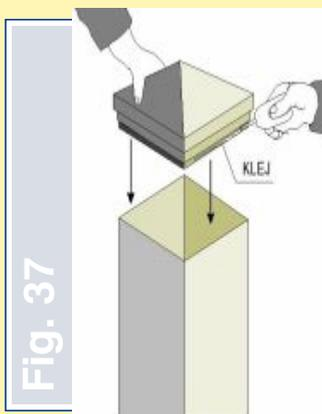

Fig. 37
- last operation is fixing of post caps; apply some glue in the cap (in the perimeter of the cap inside) then insert it on the required level - in case of slight unevenness of top edges of the posts, the level of a post may be adjusted by the caps inserted respectively - Fig. 37